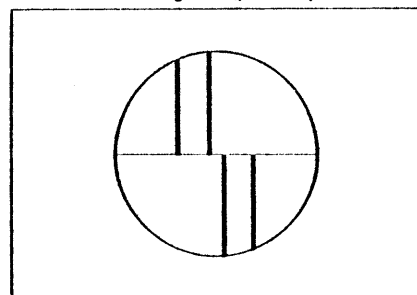

FIGURE 2-2. COLLIMATION TARGET
5. Rest your chin on the master camera and look through the eyepiece to observe the illuminated double line target (Figure 2-2). Move your eye relative to the eyepiece until the double line target image is sharpest.